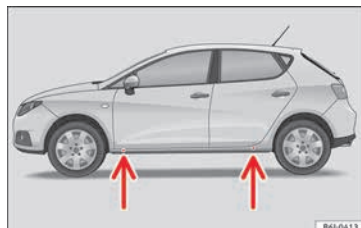

Fig. 66 Jack position points
• Find the support point on the strut (sunken area) closest to the wheel to be changed »» **Fig. 66.**